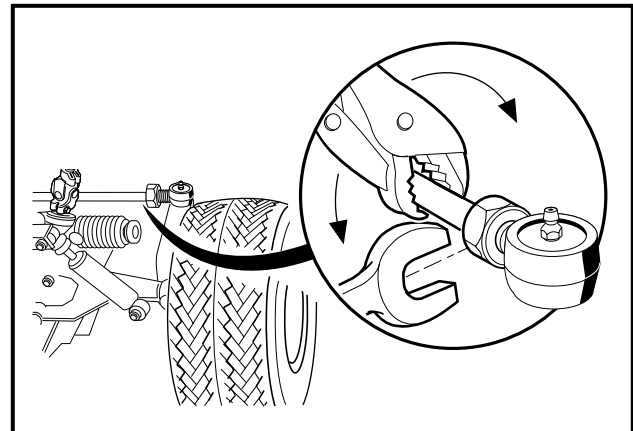

Figure 7-19 Adjust Toe-In
- If adjustment is necessary, loosen the jam nut on each tie rod ball joint and rotate the tie rod to increase or decrease toe-in (**Figure 7-19, Page 7-16**). **See following CAUTION.**